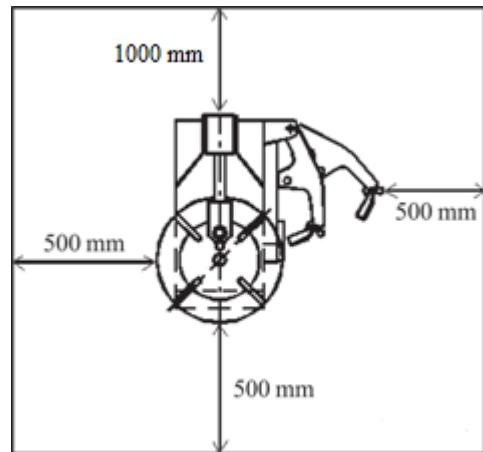
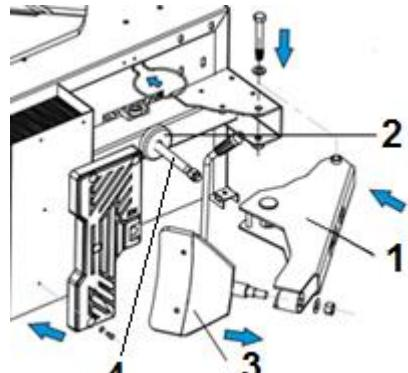

Fig. 3
Fig. 9
- The bead breaker arm (1, fig.9) is already mounted.
- Loosen the nut, which is placed on the piston rod (4, fig.9).
- Pull the bead breakerarm (1, fig.9) outwards all the way, till the piston rod (4, fig.9) comes out entirely.
- Place the rubber buffer (2, fig.3) over the piston rod to the side of the machine and place the piston rod back through the hole in the bead breaker arm (1, fig.9). Now tighten the nut using an air drill.
- Now place the bead breaker shovel (3, fig.9) And connect it firmly using the washer and nut.